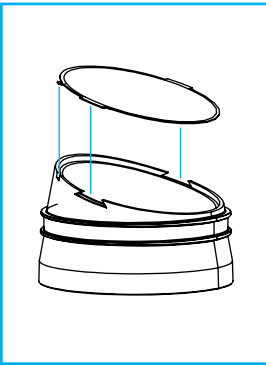

Fig.34
B. To change lens, carefully push the lens up out of the baffle. Insert preferred lens in proper orientation, and carefully press it into place (*Fig.34*).